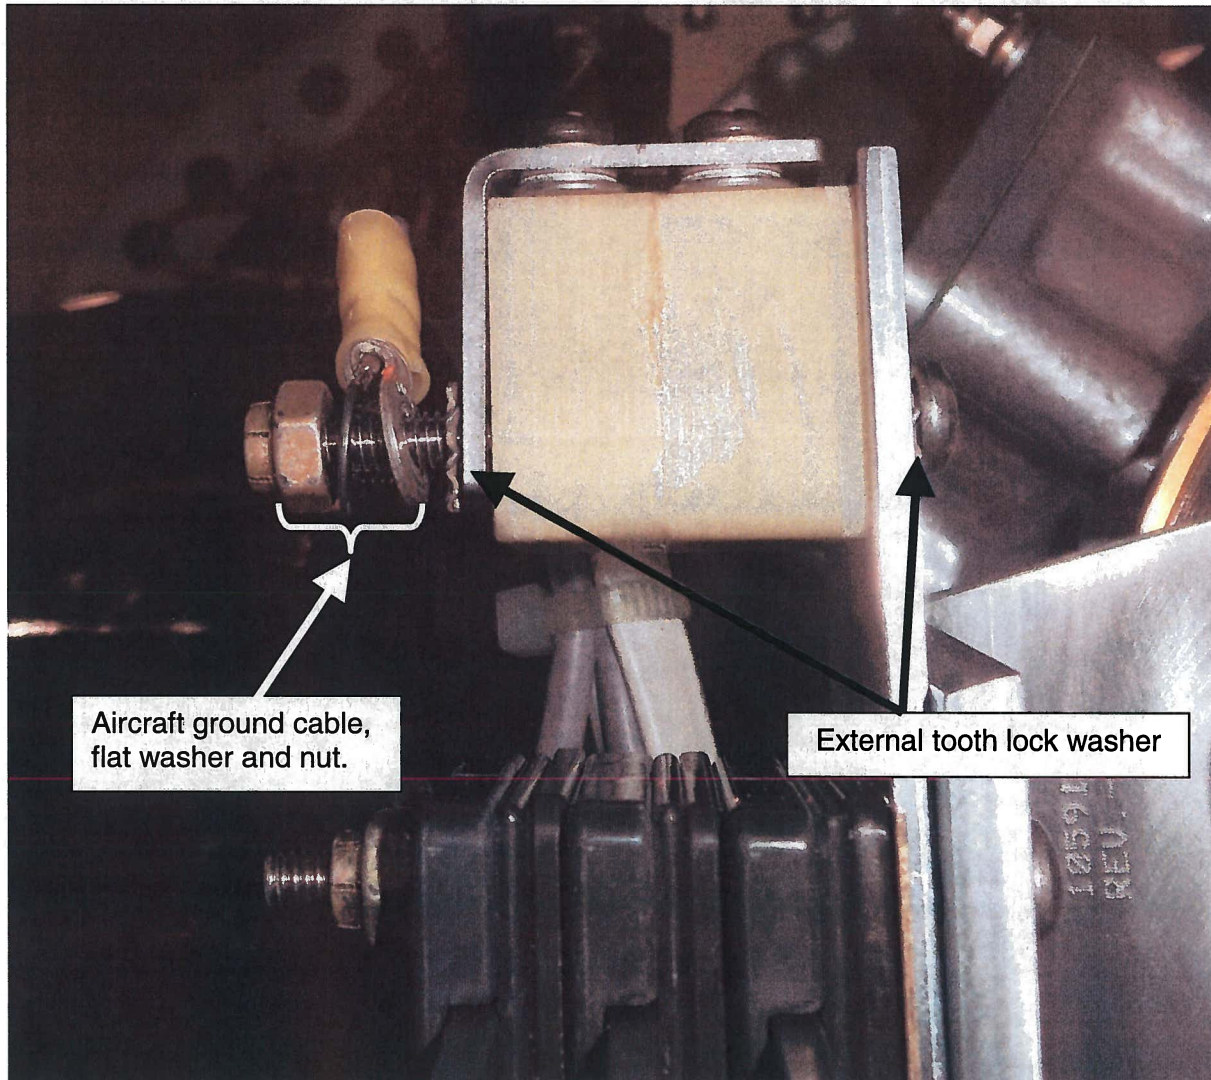

Figure 7
- 3) On the front MOV mounting screw, as shown in **Figure 7**, install a B-3855-31 external tooth lock washer, followed by the aircraft grounding cable, then a B-3837-N832 flat washer and B-6655-08 nut.